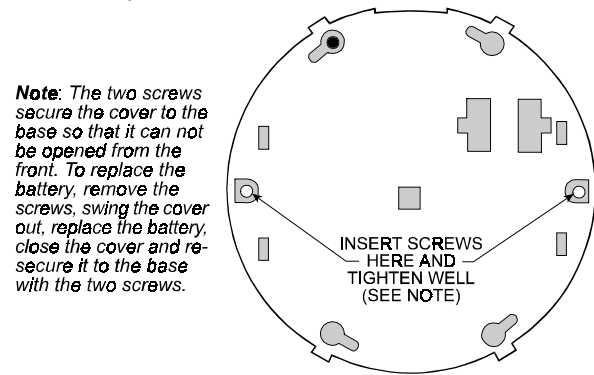

Figure 7. Securing the Cover to the Base
- A. Before attaching the detector unit to the bracket, it is a good practice to secure the cover to the base with two screws (supplied with the unit) through the holes shown in Figure 7. This will prevent unauthorized opening of the cover.